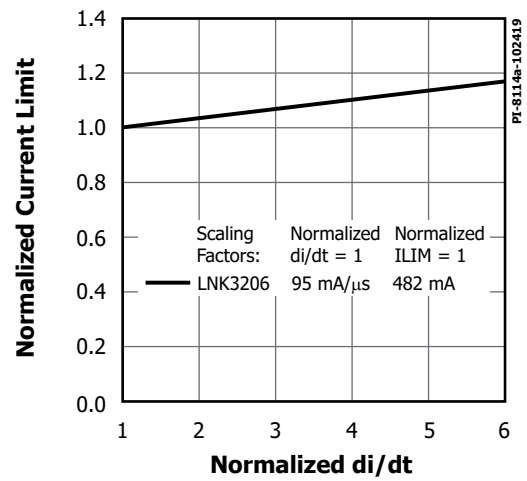

Figure 20. Default Current Limit vs.  $di/dt$ .
- For current limit at other di/dt values, refer to Figures 20 and 21.